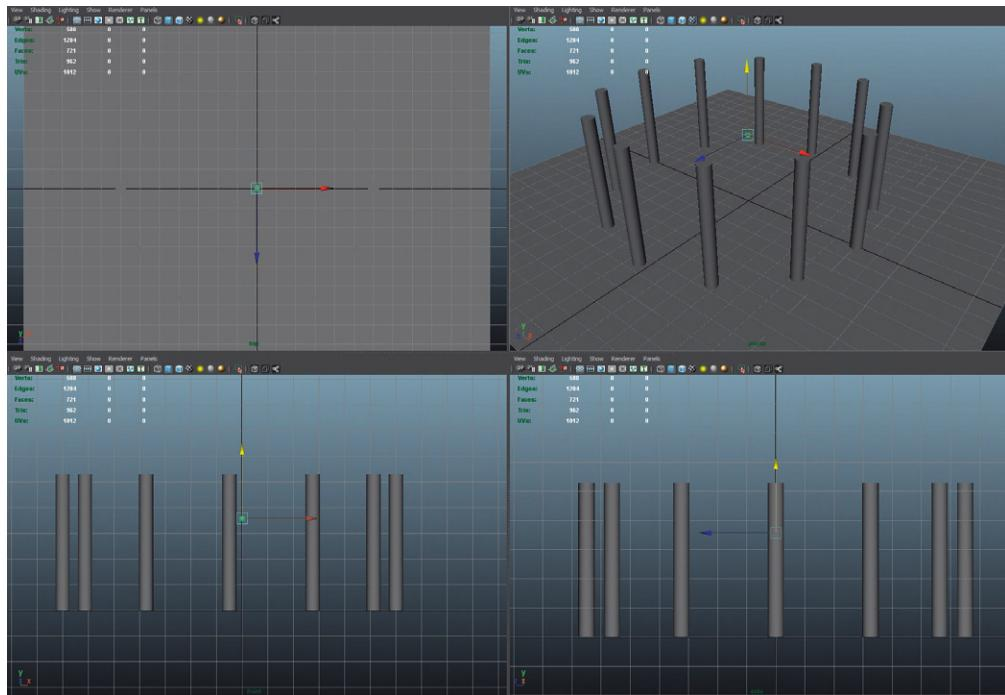

FIG 7.4 Positioned Point Light.
Step 3: Create and position a Point Light. To do this, choose Create > Lights > Point Light. This will create the instrument at 0, 0, 0 in world space. Use the Move Tool to move it up in Y to match Fig. 7.4 (approximately).